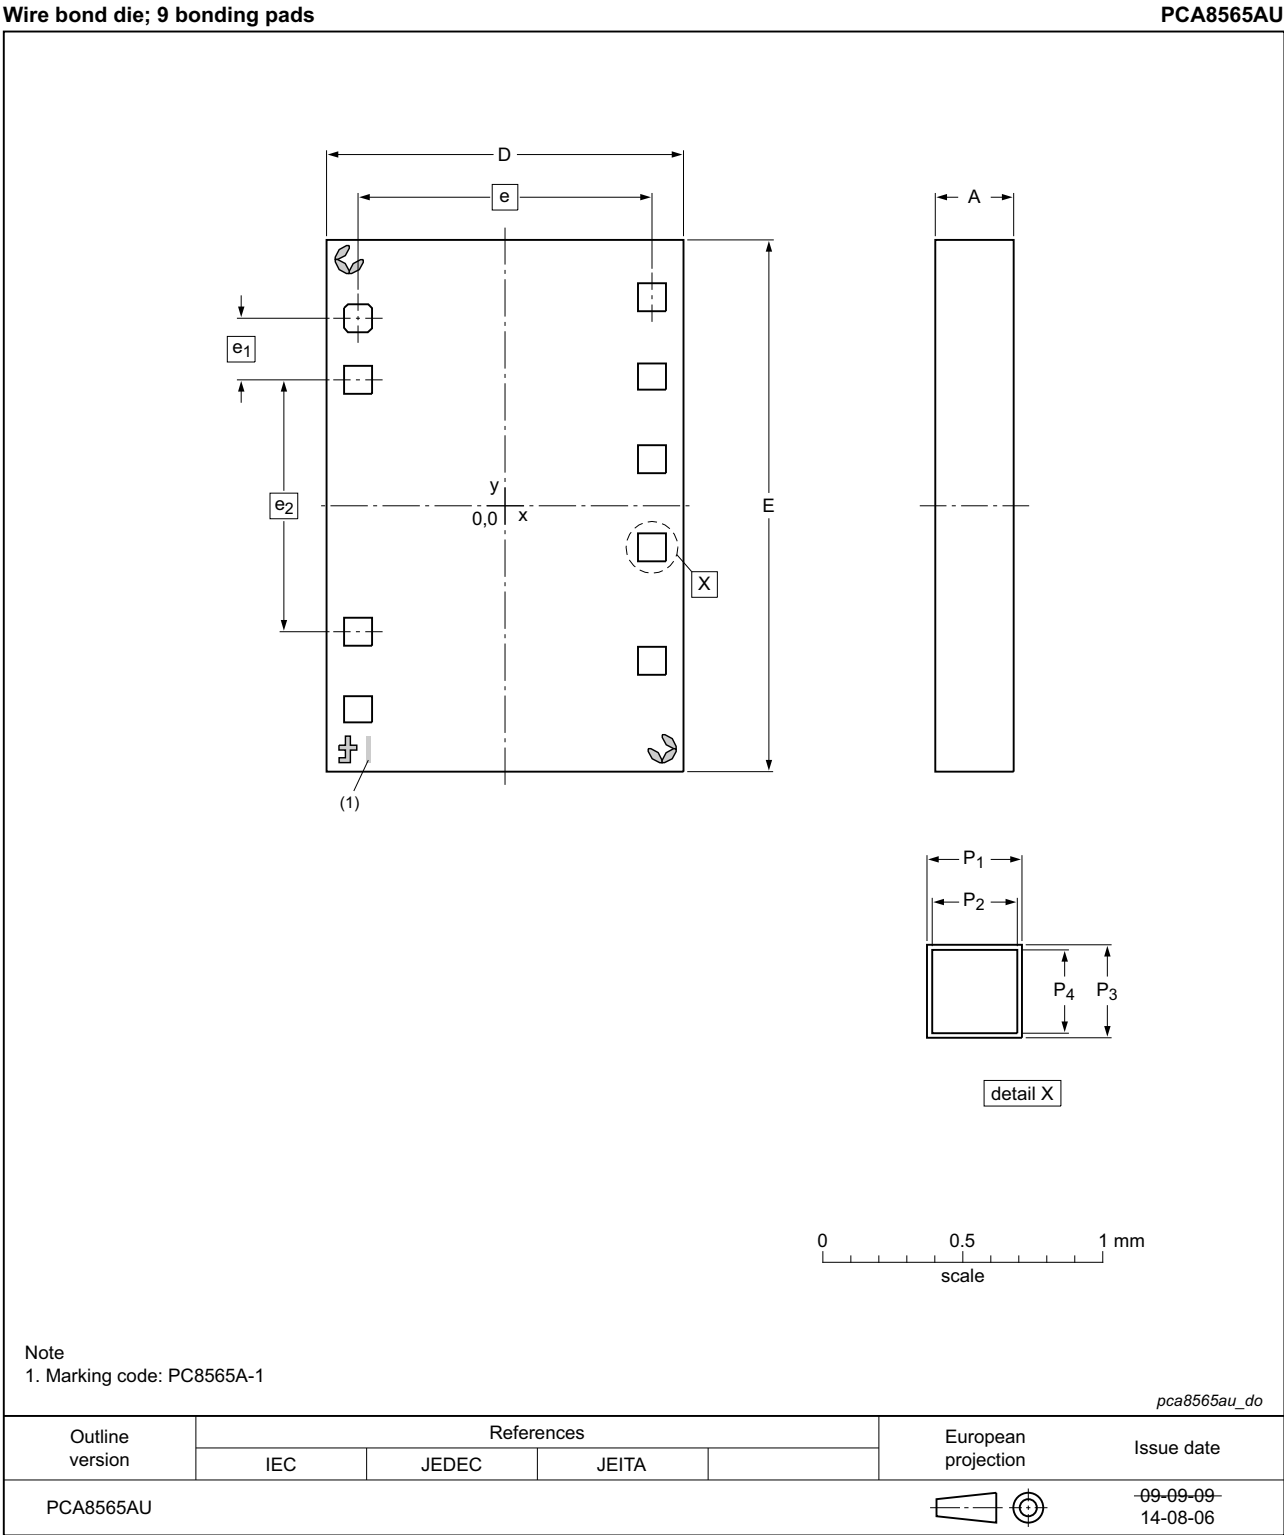

Fig 24. Bare die outline
**Table 35. Pin description**All x/y coordinates represent the position of the center of each pad with respect to the center (x/y = 0) of the chip; see Figure 24.
**Fig 25. Alignment marks****Table 36. Alignment mark description**All x/y coordinates represent the position of the REF point (see Figure 25) with respect to the center (x/y = 0) of the chip; see Figure 24.